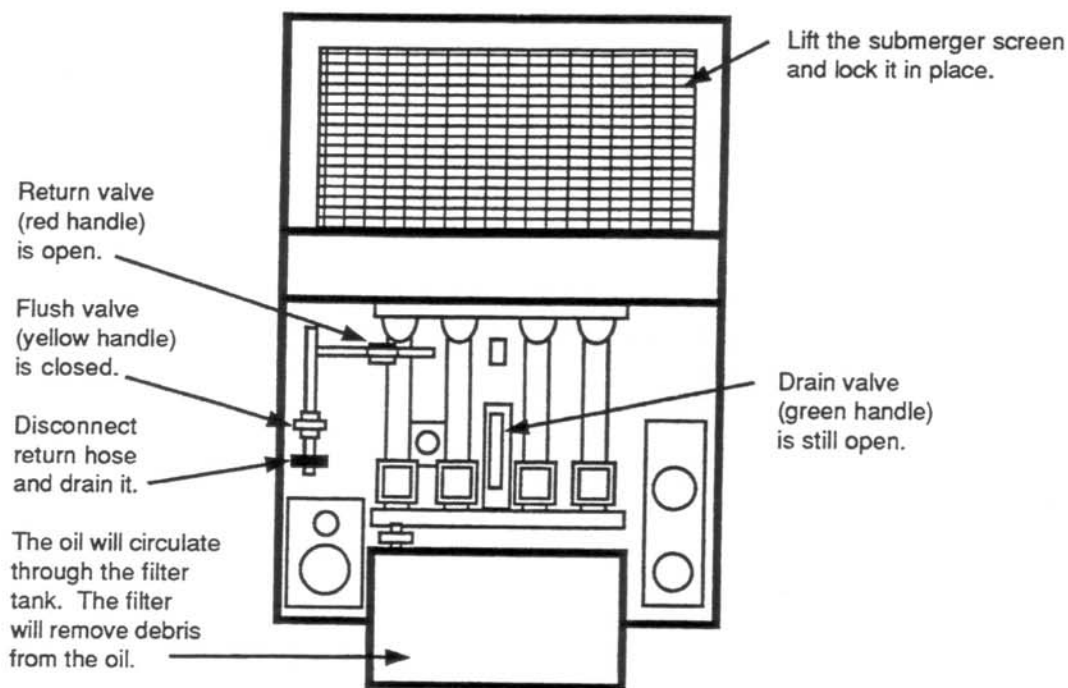

Fig. 21
15. Close the flush valve (yellow handle), as shown in Fig. 21.